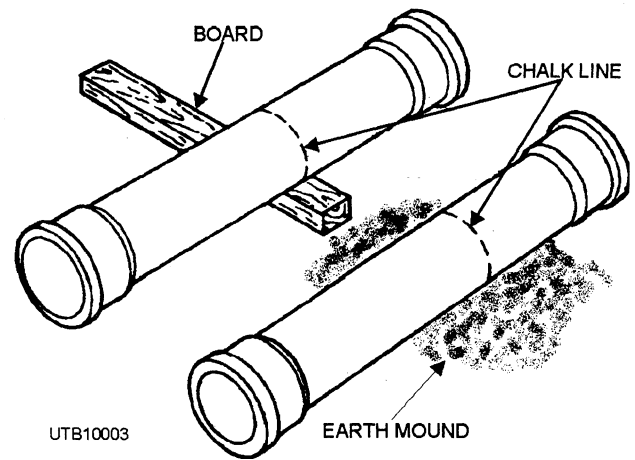

Figure 3-4.—Supporting soil pipe for cutting.
- Lay the pipe over a board or mound of earth at the point to be cut to support the pipe (fig. 3-4) and allow it to turn easily.